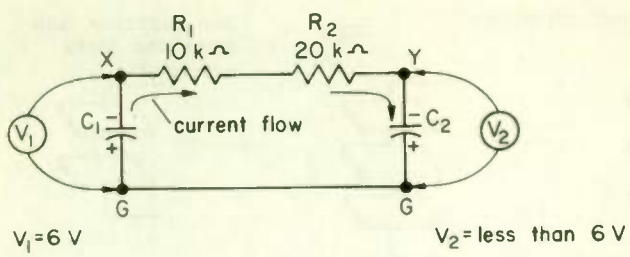

Fig. 6
2. Yes . . . Figure 6 shows the equivalent circuit of the two capacitors and resistors after the switch is opened. Voltmeter V_1 shows that the voltage across C_1 is 6 V. However, as shown on V_2 , the voltage across C_2 is less than 6 V, so point X is more negative than point Y . Resistors R_1 and R_2 are essentially in series if we travel from point X to point Y , so electrons will flow from the negative